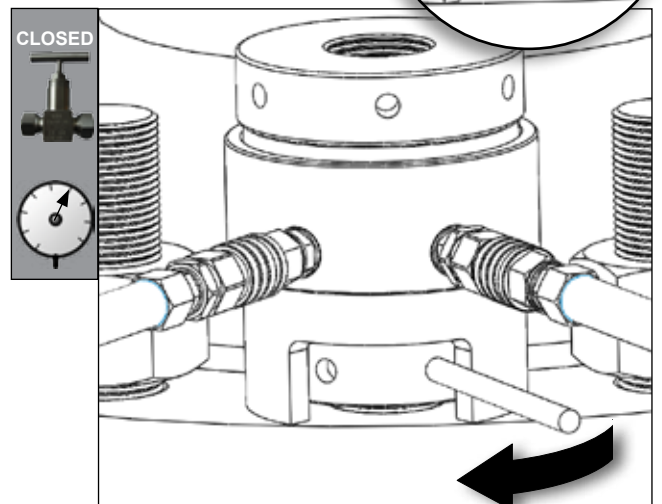

Fig 7.2
8. Once the pressure is holding steady approach the tensioners and by using a tommy bar inserted into the nut socket holes rotate the nuts firmly against the joint face. Repeat until all of the nuts have been firmly seated against the bolted joint. (Fig 7.2 & 7.3)
17. Once the pressure is holding steady approach the tensioners and by using a tommy bar inserted into the nut socket holes rotate the nuts firmly against the joint face. Repeat until all of the nuts have been firmly seated against the bolted joint. (Fig 7.2 & 7.3)